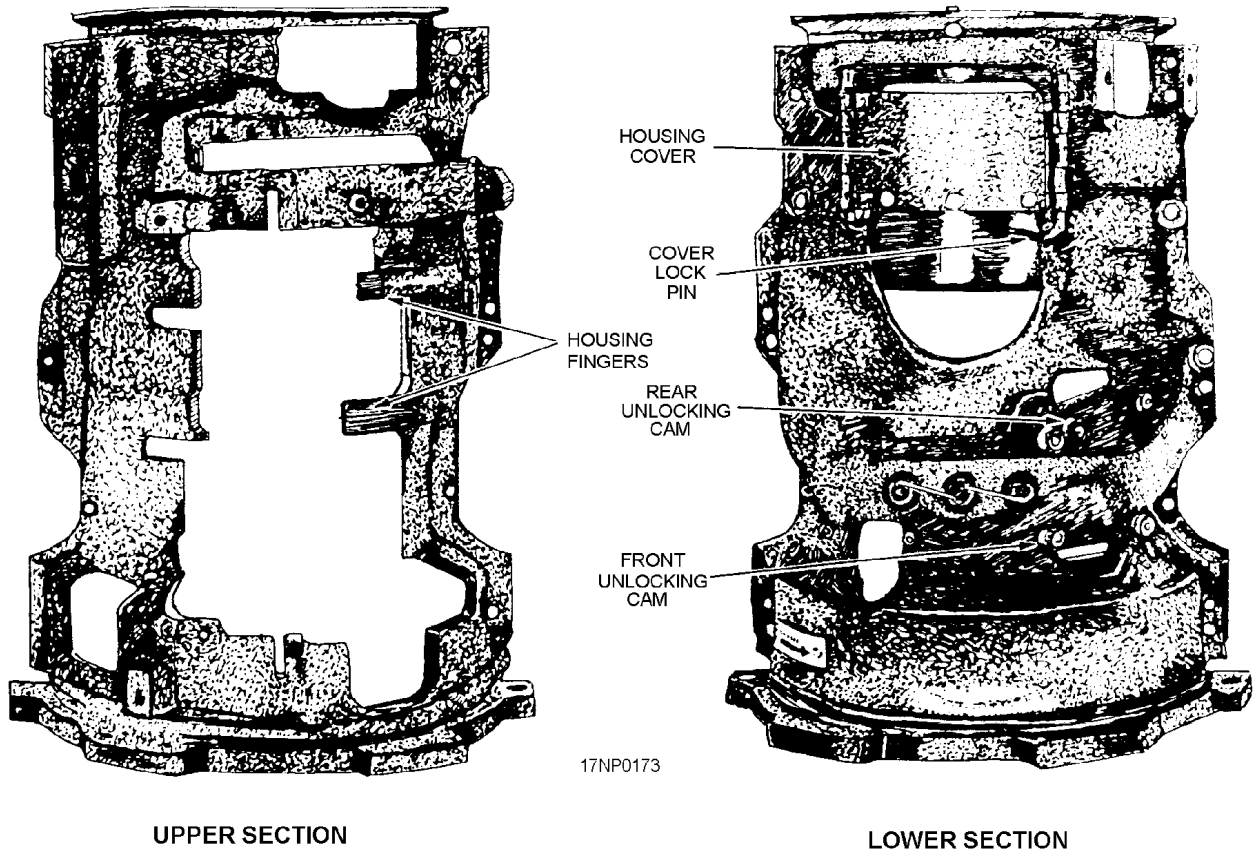

Figure 6-5.—Rear housing assembly and related parts (external view).
**Rear housing assembly and associated parts.** The rear housing assembly (figs. 6-5 and 6-6) is a major unit of the gun. It consists of an upper section and a lower section assembled as one unit. The rear housing assembly provides the main cam path that controls the movement of the breech-bolt assemblies. The elliptical (oval) shape of the main cam path causes the forward and backward movement of the bolt assemblies. The clearing-cam path is circular and located at the rear of the housing. It provides a path for the bolt assemblies during the gun's clearing cycle. The housing cover,